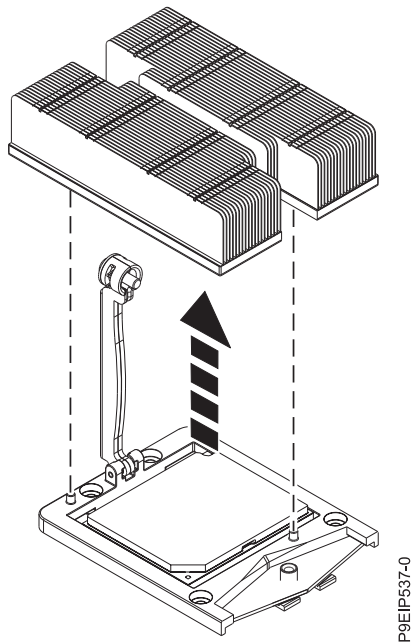

Figure 66. Removing the heat sink
5. Grip the heat sink and remove it by lifting straight up as shown in Figure 66.